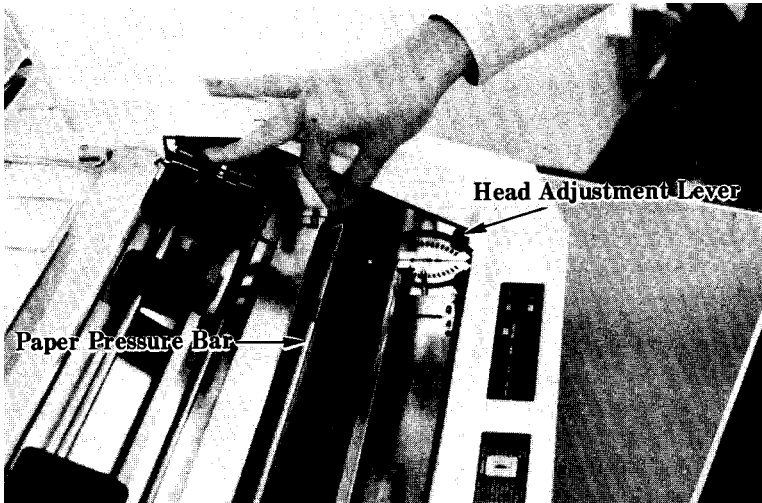

Fig. 1
1. Open the printer cover and push the paper pressure bar toward the platen as shown in Fig. 1.